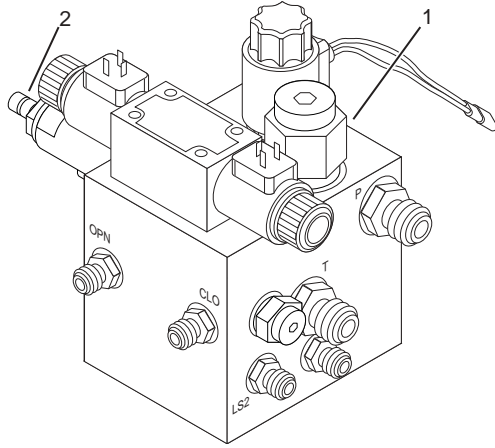

Figure 30. Gate Relief Valve
1) Install 2000 psi gage in “TP” port of gate cylinder manifold located just behind conveyor manifold on hydraulic reservoir (Fig 30 Ref 1). This port is SAE 04 MB and requires a 9/16 wrench to remove the plug.
3) To adjust pressure, use 9/16" box wrench to loosen jam nut on set screw located on the gate manifold on top of the reservoir (Fig 30 Ref 2). If pressure is low, turn set screw clockwise. If pressure is high, turn set screw counterclockwise.